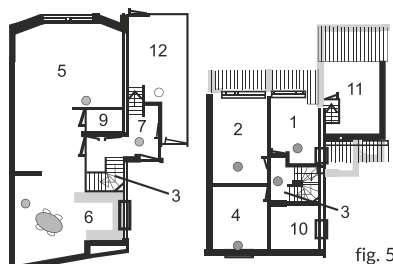

fig. 5
3. Put the sensor on and screw it to the base as shown in fig. 5.